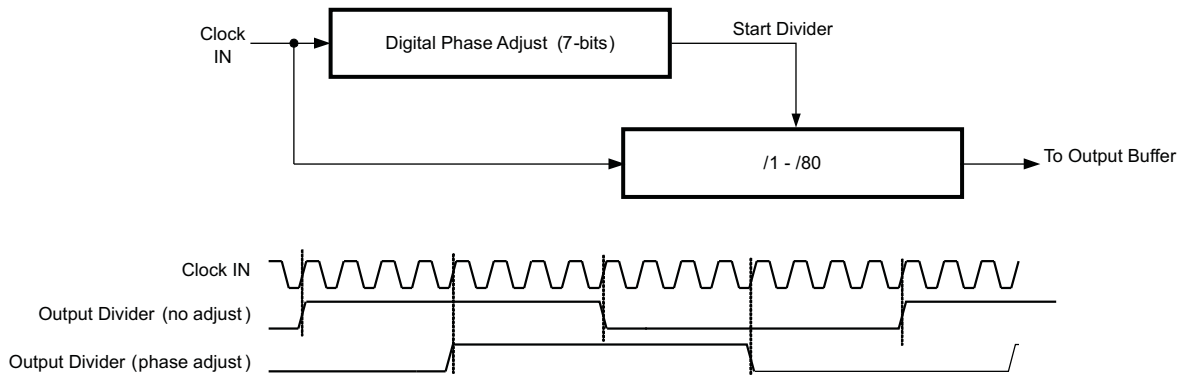

Figure 25. CDCE18005 Phase Adjust
Figure 25 provides an overview of the Digital Phase Adjust feature. The output divider includes a coarse phase adjust that shifts the divided clock signal that drives the output buffer. Essentially, the Digital Phase Adjust timer delays when the output divider starts dividing; thereby shifting the phase of the output clock. The phase adjust resolution is a function of the divide function. Coarse phase adjust parameters include:
- **Number of Phase Delay Steps** – the number of phase delay steps available is equal to the divide ratio selected. For example, if a Divide by 4 is selected, then the Digital Phase Adjust can be programmed to select when the output divider changes state based upon selecting one of the four counts on the input. Figure 25 shows an example of divide by 16 in which there are 16 rising edges of Clock IN at which the output divider changes state (this particular example shows the fourth edge shifting the output by one fourth of the period of the output).